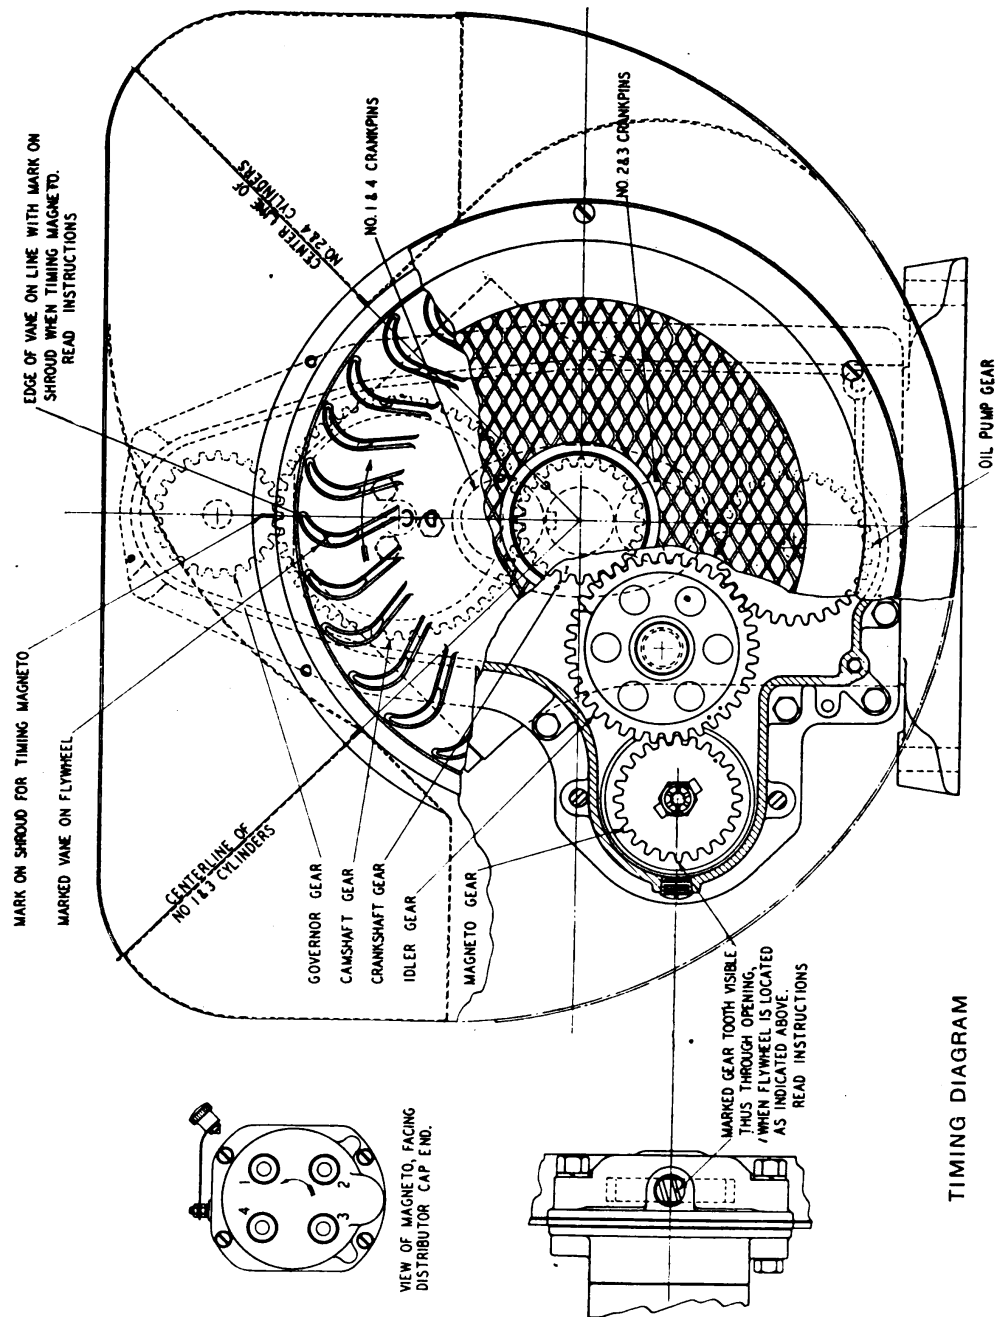

Figure 9.—Timing Diagram
(1) Remove the screen over the flywheel air intake opening by taking out the six screws holding the screen in place. This will expose the mark on the shroud for timing the magneto. See timing diagram, figure 9.
(2) Remove the spark plugs from the cylinders. Then turn the engine over slowly with the starting crank until the compression in No. 1 cylinder blows the air out of the spark plug hole.
(3) The flywheel is marked with the letters "DC" near one of the air circulating vanes. This vane is further identified by a mark cast on the end. (See figure 9.) When the air blows out of the No. 1 spark plug hole, continue turning the starting crank until the edge of the marked vane on the flywheel is on line with the top center. The keyway at the take-off end of the crankshaft is also on top.
c. Valve timing is accomplished through the camshaft gear train, driven off the crankshaft. These gears are properly meshed when the marks on the gears line up with the marks as shown on the timing diagram, figure 9.